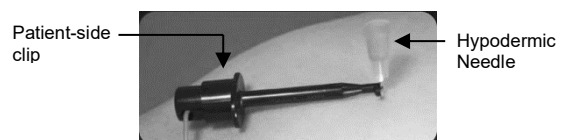

Figure 4. Patient-side clip with a hypodermic connected to the patient
- (1) Connect the Patient-side clip to a hypodermic needle (made of stainless steel without resin-coating, 20–22 gauge) placed in the patient. (Figure 4.)